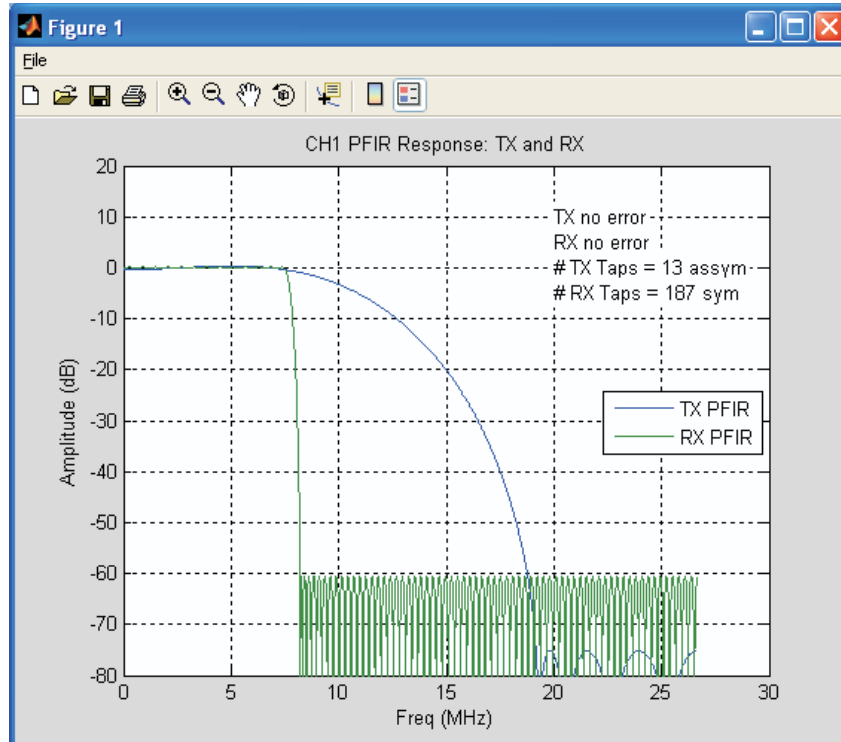

Figure 30. (Figure $2*N-1$ Window) Frequency Response Before CIC Compensation and Quantization
- **Plots - RX + TX PFIRs**—plots RX and TX PFIR filter spectra before CIC compensation and scaling. Displays the number of taps used for each filter. (See Figure 30 for an example.)
After clicking the **Configure** button (if the filter is successfully designed) in the General Settings area the frequency response for each PFIR filter BEFORE CIC compensation and quantization is displayed in a window labeled Figure $2*N-1$ (Figure 30), where N is the channel number. The odd-numbered figures also display the number of PFIR taps used, plus if the filter is symmetric or asymmetric.